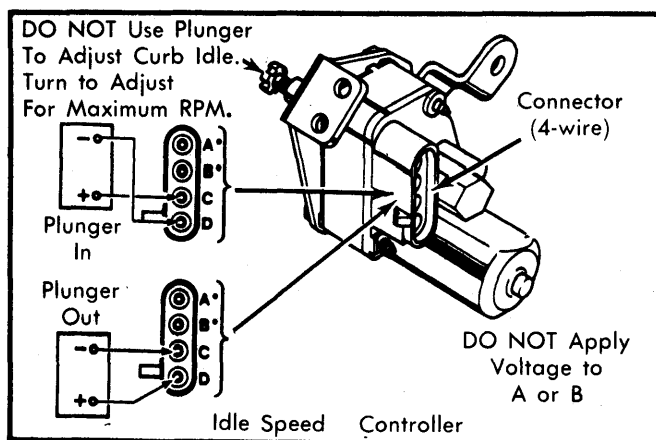

Fig. 6 Connecting a 12 Volt Source to Idle Speed Control Motor
3) Unplug ISC connector from motor. Retract plunger by applying 12 volts to terminal "C" of ISC motor and grounding terminal "D" of ISC motor. See Fig. 6. Do not leave the 12 volts connected to the ISC motor any longer than necessary to retract plunger.
5) Extend ISC plunger by applying 12 volts to terminal "D" and grounding terminal "C" of ISC motor connector. See Fig. 6. Adjust plunger to obtain Maximum Authority RPM. Recheck